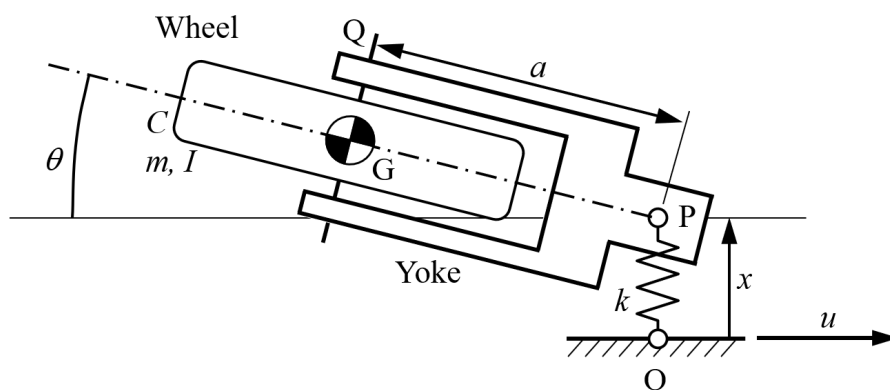

Fig. 5
- (c) The castered landing wheel of an aircraft is idealised as shown in plan view in Fig. 5. A flexible strut OP, with lateral stiffness  $k$  is fixed to the aircraft at O. A massless yoke PQ, of length  $a$  is free to rotate about a vertical axis in the strut at point P. A wheel of mass  $m$ , yaw moment of inertia  $I$  and lateral creep coefficient  $C$  is carried by an axle at G which is attached to the yoke. Point O moves in a straight line at forward speed  $u$ . Point P has the same longitudinal coordinate as O and can move laterally with displacement  $x$ . The yoke can yaw relative to the path of P by angle  $\theta$ . The runway surface is smooth and level.
4 It has been suggested that the performance of a car can be improved if the suspension geometry causes the rear wheels to adopt a steering angle  $\varepsilon$  proportional to the combined lateral force  $Y_r$  on the rear tyres. A 'bicycle' model of the car, as shown in Fig. 5, is used to investigate the effects of this passive rear wheel steering. In the model, which has the usual notation, the front wheels are steered at angle  $\delta$  and the rear wheels adopt angle  $\varepsilon$ , where  $\varepsilon = \gamma Y_r$  and  $\gamma$  is a constant. All angles should be assumed to be small.